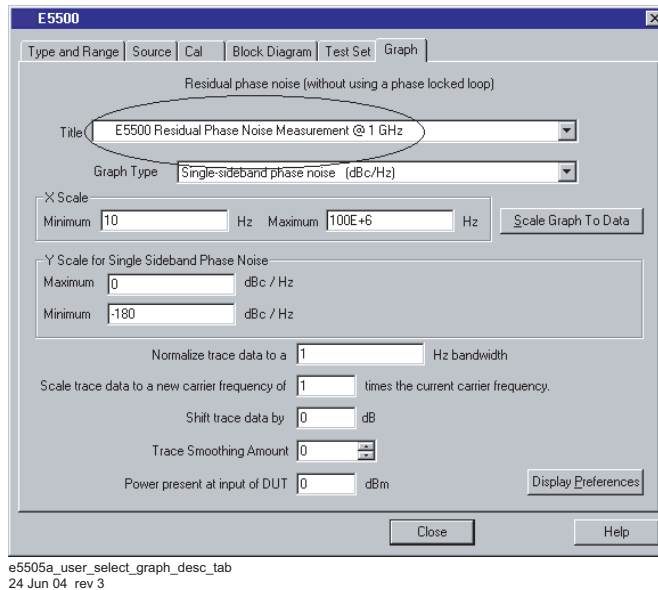

Figure 168 Select graph description on graph tab
- 13 Enter a graph description of your choice (E5500 Residual Phase Noise Measurement @ 1 GHz, for example). See Figure 168 on page 241.